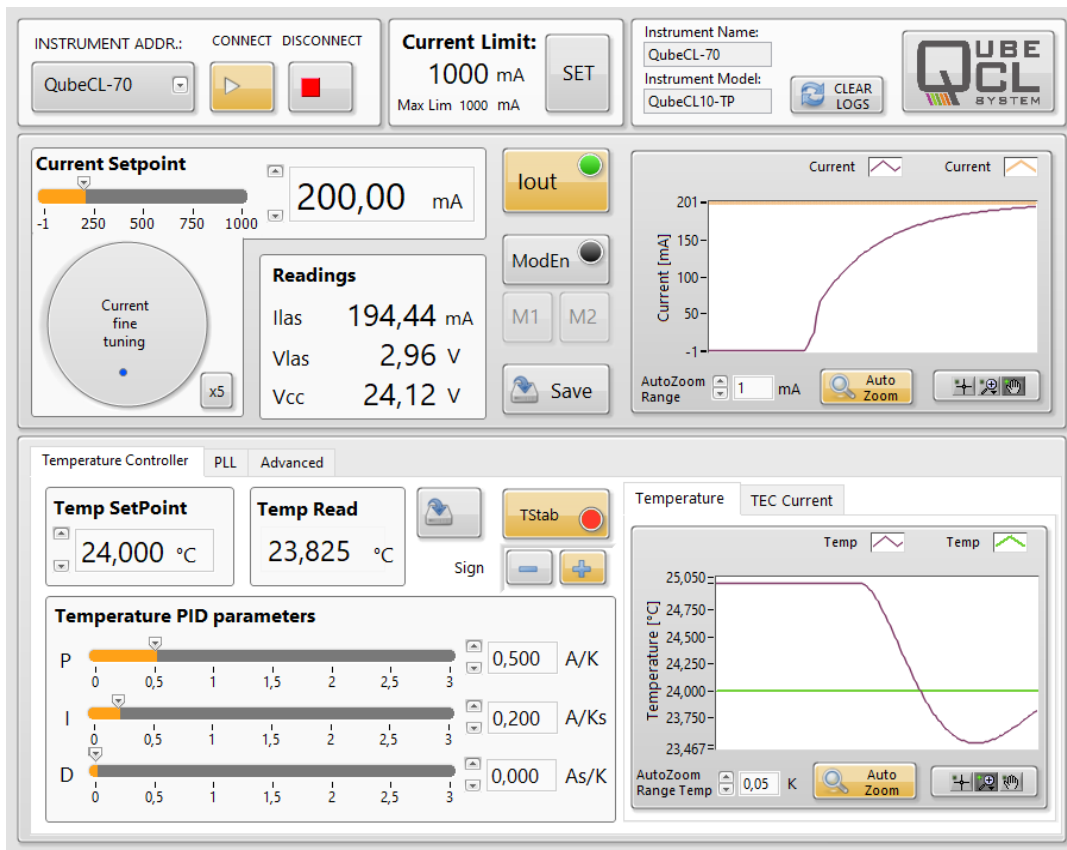

Figure 4: Graphical view of the QubeCL control software: Temperature and current control
Temperature control operation (If present, refer to Figures 4 and 5)
- Oscillation of the read temperature around set temperature must be observed as shown in temperature graph of Figure 4
Current control operation (Refer to Figures 4 and 5)